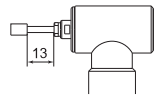

Fig. 11
- Do not exceed 13mm of overhang for mounted grindstones as shown in Fig. 11. If the overhang must exceed 13mm, reduce the motor speed in accordance with table 2.